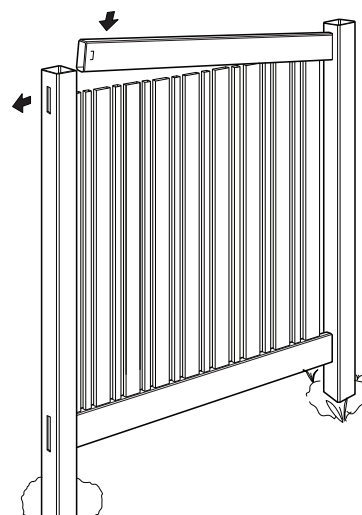

fig. 7
STEP 5 – After all pickets have been inserted, place the top rail channel-side down into the routed hole of the first post. Working from one side to the other, slide the rail over the pickets. The second post may need to be shifted slightly until the rail fits into the middle-routed hole (fig. 7).